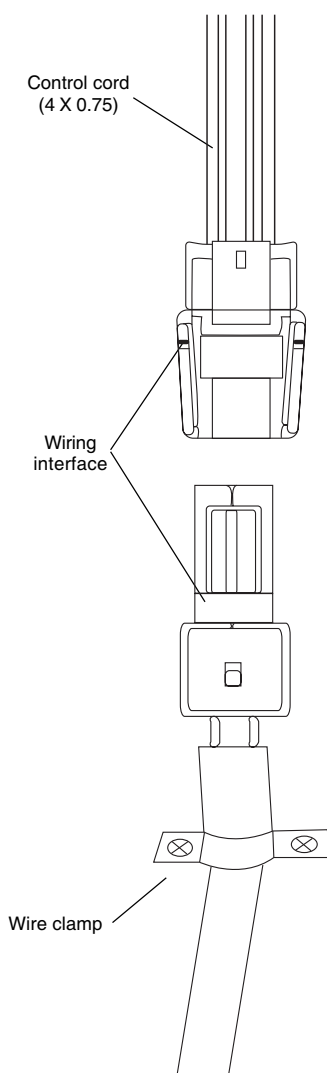

Figure 5
5. For heat pump unit, connect the control cable to the indoor unit through the intertaces (see figure 5).